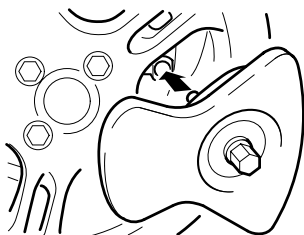

Fig. 5
- Line up the locking bolts and assembly with the receiver. (Fig. 5)